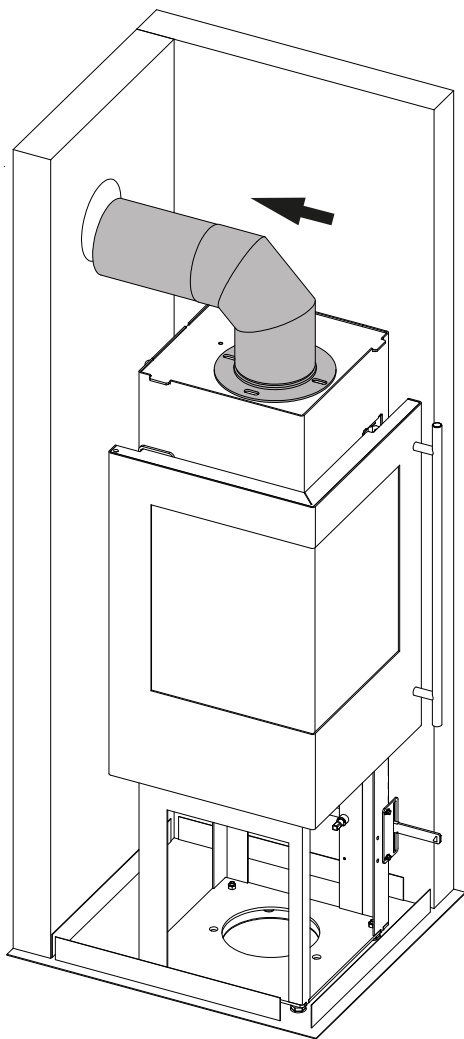

Fig.5
- Slip the elbow pipe with the stove pipe onto the waste air duct and slide it through the hole in the insulation board and then tightly into the wall lining (see Fig.5).